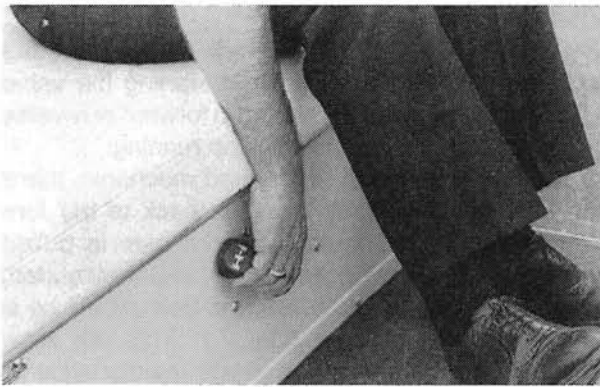

Figure 3
FORWARD/REVERSE CONTROL - The forward/reverse shift lever is located below and to the right of the driver's right knee on the seat support panel. (See Figure 3, Page 11.) The lever has three (3) distinct positions: F (forward), N (neutral), and R (reverse). Rotate the lever towards the driver, F (forward), to run the vehicle in the forward direction, and towards the passenger, R (reverse), to run the vehicle in reverse. When the lever is in the straight up, or N (neutral) position, the vehicle will not run. The engine on the DS Gasoline will stop if it is shifted to this position while running. The DS Electric vehicle operates at half speed in reverse.